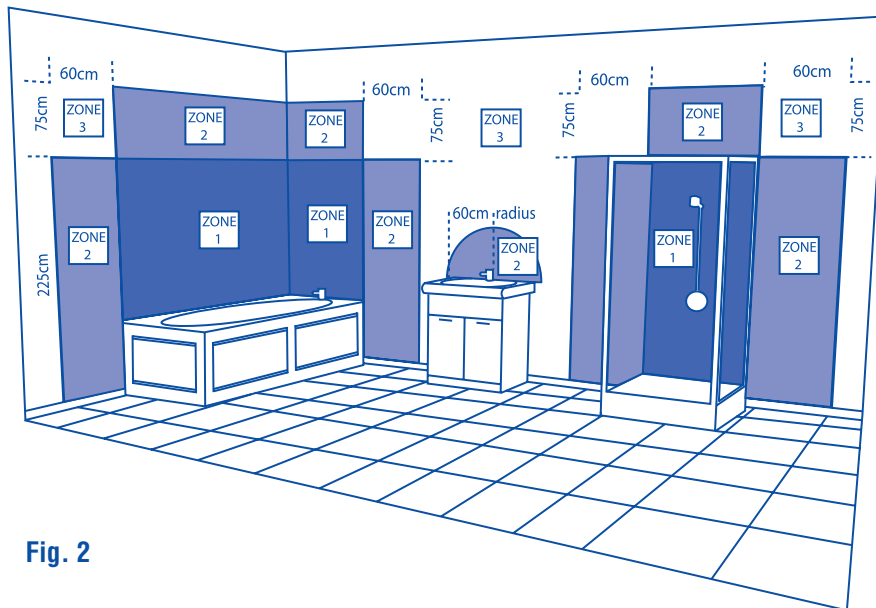

Fig. 2
- This fitting is IP44 rated and is protected against dust and splashing water. It is suitable for installation in locations containing a bath or shower, as defined by the I.E.E Wiring Regulations, Zones 2 & 3 EXCEPT where water jets are likely. (See Fig.2 below for assistance)